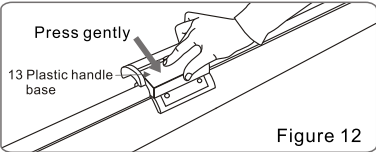

Figure 12
4.Be sure the screen is completely stowed and locked before carrying the product by handle , even if the screen could be locked automatically while the uphold bar were locked in the clip. (Figure 12)